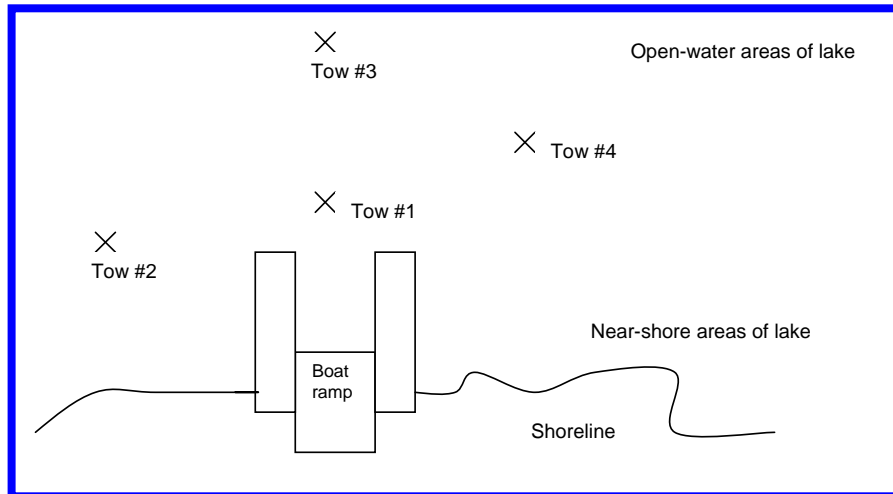

Figure 3: An example of plankton collection at a site location.
**PLANKTON NET SAMPLE COLLECTION PROCEDURE:** Collect a recommended minimum of four plankton tows at each site and combine in one sample container. The sample container should be no more than about ¼ full to allow room for preservative. If using CLI's Veliger Sample Collection Kit, the sample containers (bottles) will be pre-filled with preservative. Fill sample containers up to "Max Fill" line. **Do not overfill.** If samples are too large to combine into one bottle and still allow enough volume for the preservative, use a separate sample container for each tow. More than four plankton tows may be collected to increase the likelihood of collecting veligers. Collect each plankton tow in a different area of the site to further increase the likelihood of collecting veligers. Figure 3 depicts plankton collection at a site location.
7. Lower the cod-end-piece (separated from the plankton net) into the water, keeping the opening above the water surface. Repeat this procedure until the cod-end piece appears clean. Pour the condensed sample into the sample container\*. \*When collecting multiple samples as outlined in Figure 3 above, pour each tows condensed sample into an extra cod-end piece, repeat this procedure for all four samples, and then pour the condensed sample from the extra cod-end piece into the sample container. \*If multiple